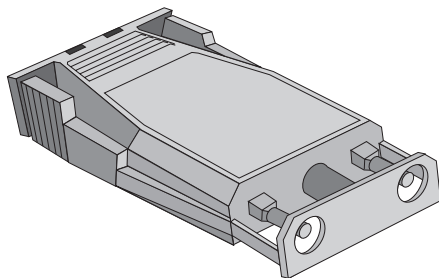

Figure 1-16. LED Fiber Optic Wrap Plug
- **Two LED fiber optic wrap plugs.** Two plugs, with dust covers, are provided with the Director. Use these plugs to run the external wrap tests on a port. Figure 1-16 shows the LED fiber optic wrap plug.